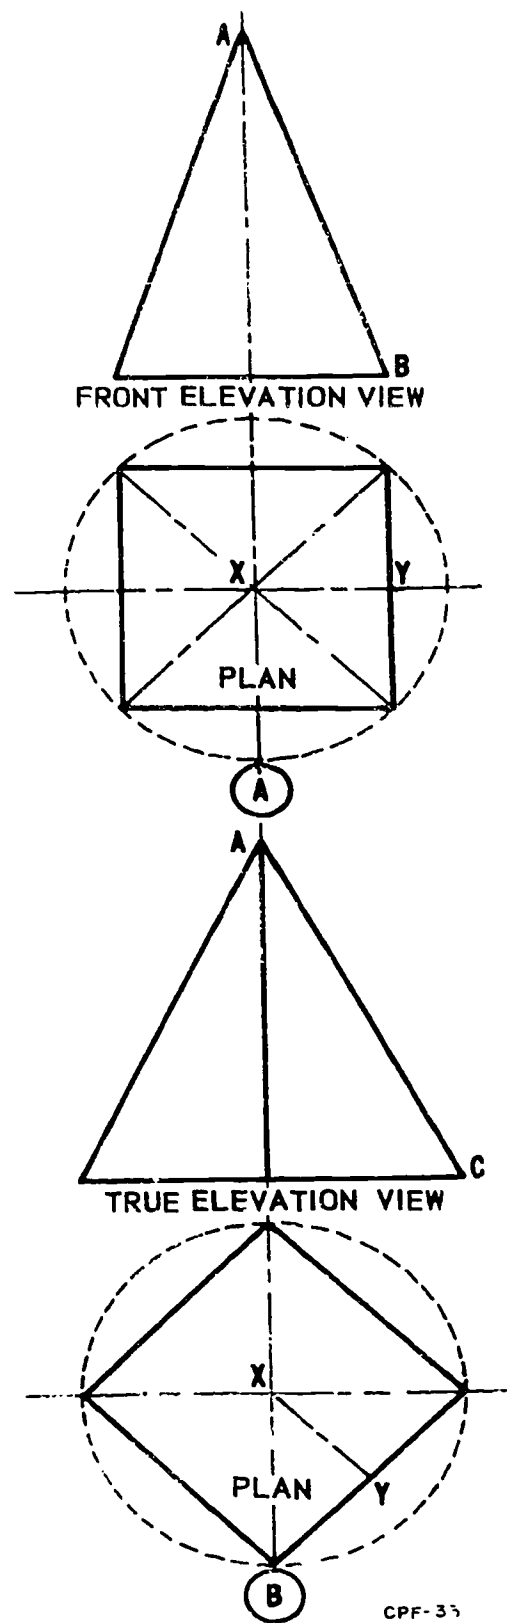

Figure 1-75. Arranging a plan view of a pyramid.
Figure 1-75 shows (view B) an example in which the position of the base in the plan view is arranged so that the slant height (AC) in the true elevation view also will be the true radius for the stretchout arc. Do not make the mistake of using the slant height (AB), as shown in the front elevation view (view A), for the true radius of the stretchout arc. When the pattern is cut and formed, the height of the pyramid will be considerably less than desired.
In view B of figure 1-75, the elevation view appears larger because the slant line AC will be the true length for the radius in developing the pattern. The ultimate shape of the object depends greatly on the arrangement of the elevation and plan views. This clearly shows that, to construct the true height, you must draw the base of the elevation parallel to a diagonal line which is the widest part of the plan view.